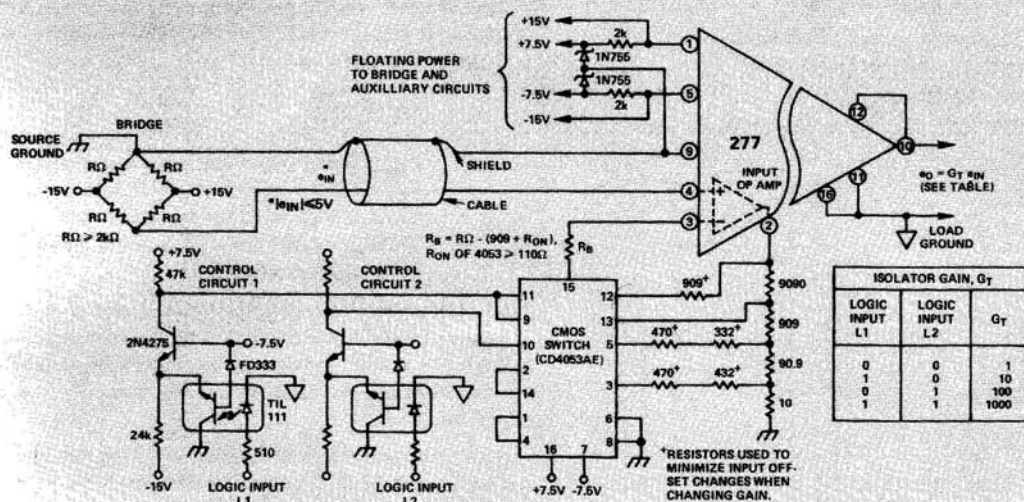

Figure 7. Programmable Gain Bridge Transducer Amplifier
**Programmable Gain Bridge Transducer Amplifier:** The versatility of model 277 is shown by the programmable gain bridge transducer amplifier application of Figure 7. In this circuit the 277's uncommitted front end and floating voltage output permit both bridge excitation and signal gain conditioning to be provided by the isolation amplifier.
Control switches are driven by TTL inputs which are isolated from source ground by the opto-isolators in the control switch. Control signals operate the CMOS switch network to establish the gains shown in the table in Figure 7. The CMOS switch network is operated in a manner that causes the resistance of the switches only to be in series with the negative input of the isolator and not in series with the gain setting resistors. With this arrangement the switch resistance does not affect gain accuracy. A resistor,  $R_B$ , should be in series with -IN to reduce errors due to bias current drift.